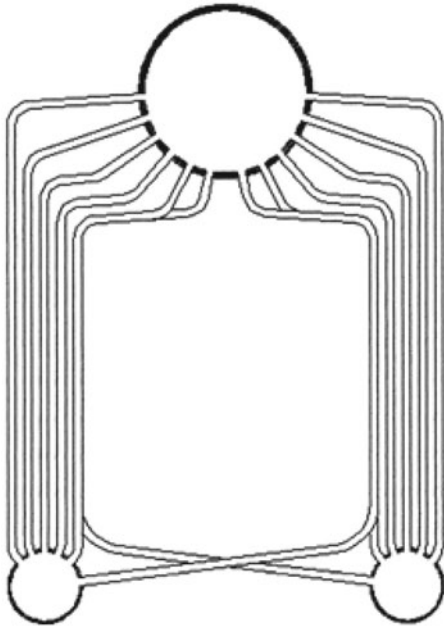

Figure 10-18. "A" type boiler.
The A type (Figure 10-18) was originally developed by the Saginaw Boiler Works in Michigan and subsequently purchased by Combustion Engineering (CE). Other manufacturers produce comparable designs. The A shape is attributed to the single steam drum at the center top and the two mud drums, commonly called headers, at the bottom. They require a second blowdown line and more soot blowers. They provided features like a water cooled furnace from one end to the other and balanced construction, which makes them easy to transport as package boilers.